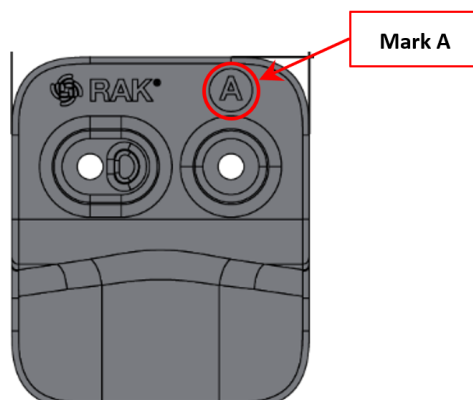

Figure 13: Mount accessory marked with letter A
1. For vertical pole mount, use two (2) pieces of mount accessories, which has an indicated mark of the letter **A**, as shown in **Figure 13**.